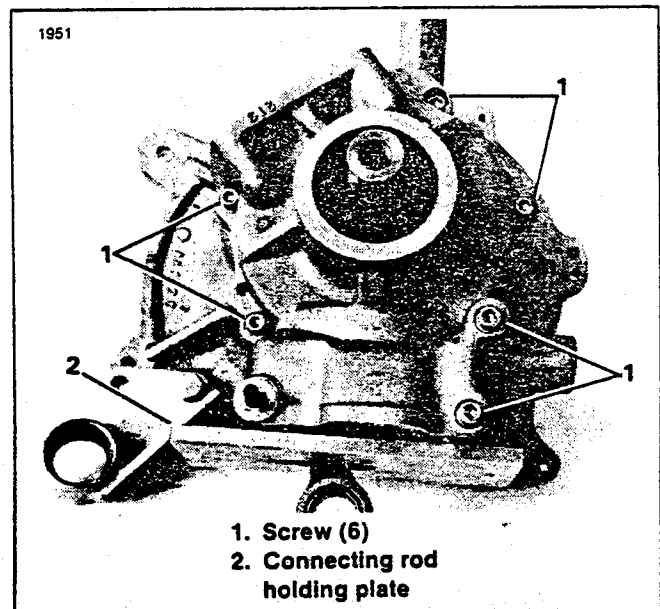

Figure 5-17. Separating Crankcases
7. See Figure 5-17. Remove the crankcase screws (1). Tap lightly on the motor mount bosses and separate the crankcase halves.
- Place the crankcase halves on a press bed and press in bearings (4). Install internal retaining rings (1).
- Insert the crankshaft in the transmission side of case and gasket (8) into crankcase halves and install the crankcase screws (1, Figure 5-17). Tighten crankcase screw to 7-9 ft-lbs torque.